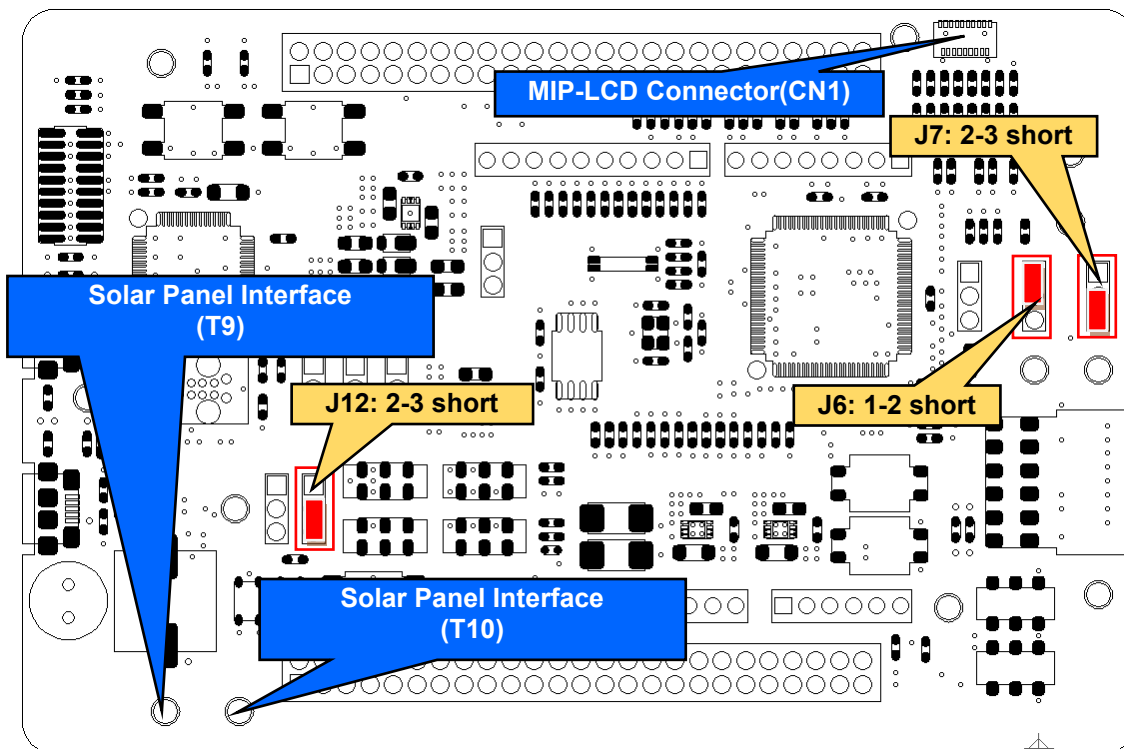

Figure 5-10: Component Layout and Settings (EHC Operation)
2. Follow the settings shown in **Figure 5-10** and **Table 5-10**.